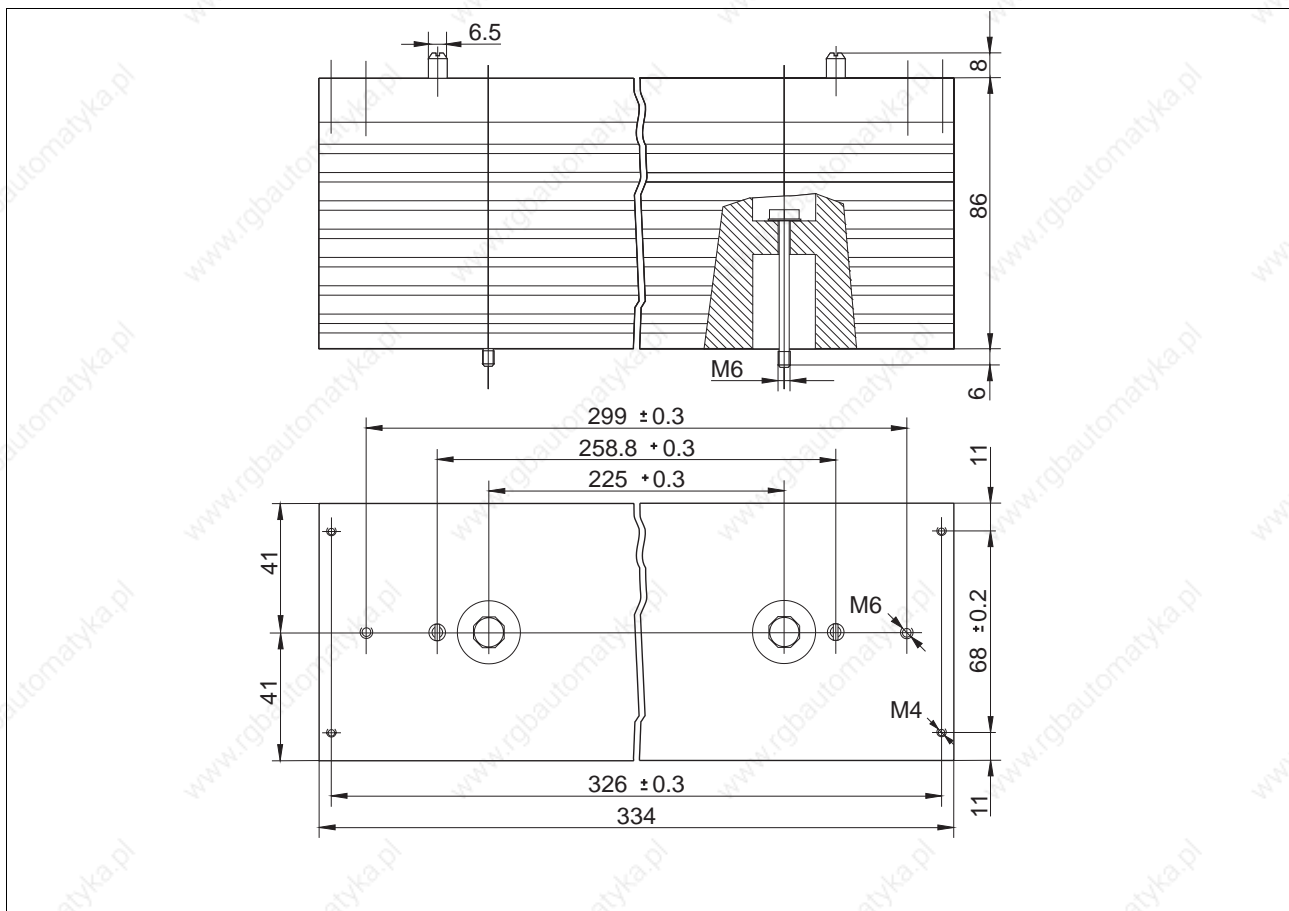

Figure 6-7 Heatsink Dimensions
3. Attach heatsink with two screws (M6) (see figure 6-7) to the mounting wall.
5. Screw the heatsink with two screws (M6) onto the mounting wall (see figure 6-7).